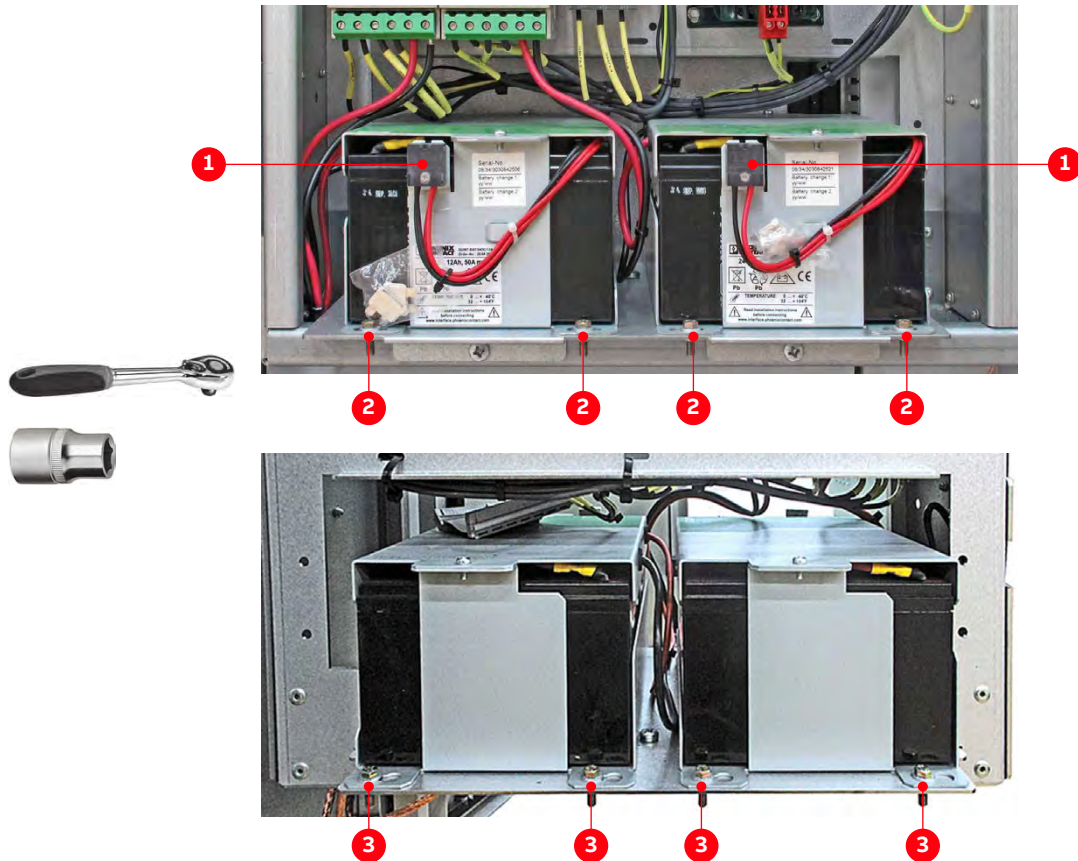

Figure 11-7: Control compartment - replacing the batteries
2. Disconnect the wires (1 in Fig. 11-7).
3. Unscrew the battery at the front (2 in Fig. 11-7) and at the back (3 in Fig. 11-7). Install the new battery in reverse order of removal.